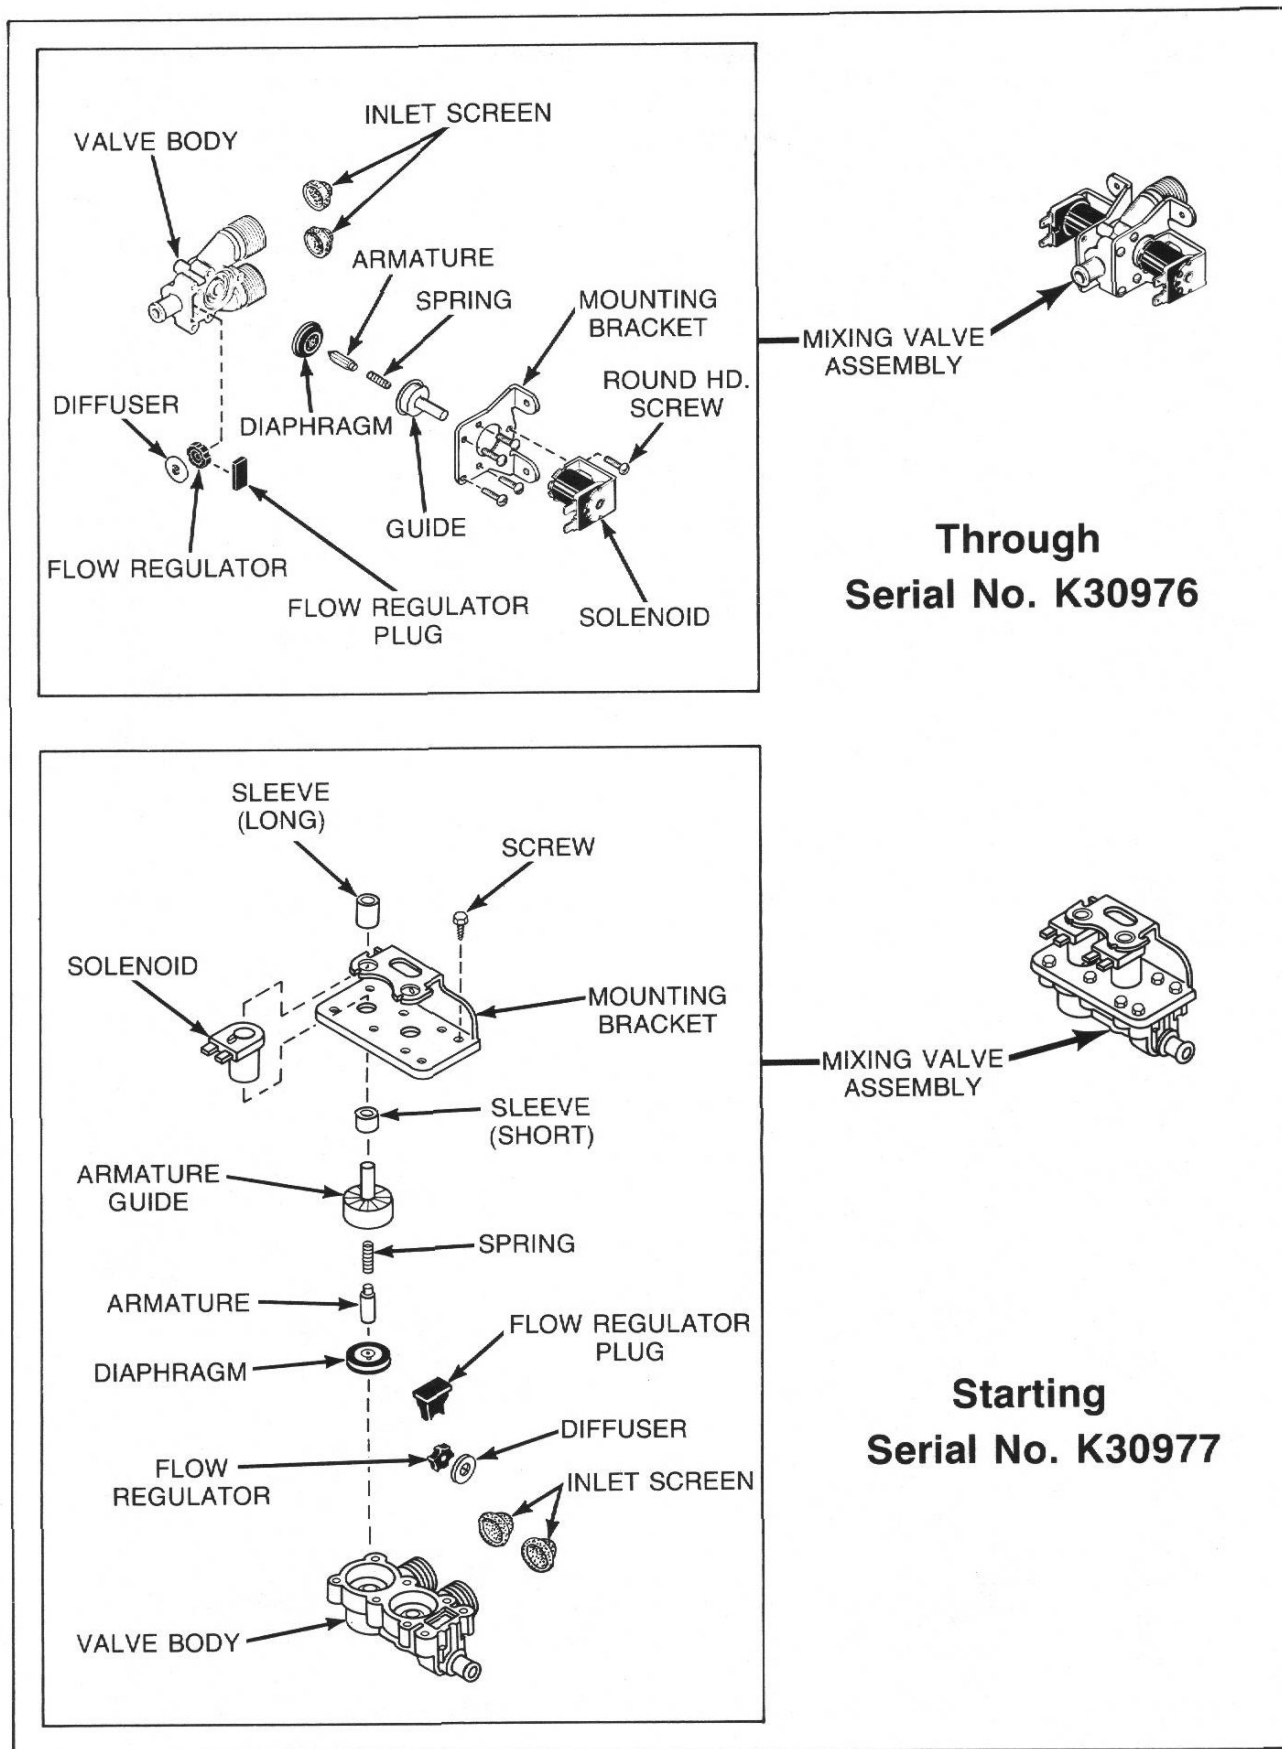

Figure 23
**NOTE:** Refer to *Figure 23* for assembly sequence of mixing valve.